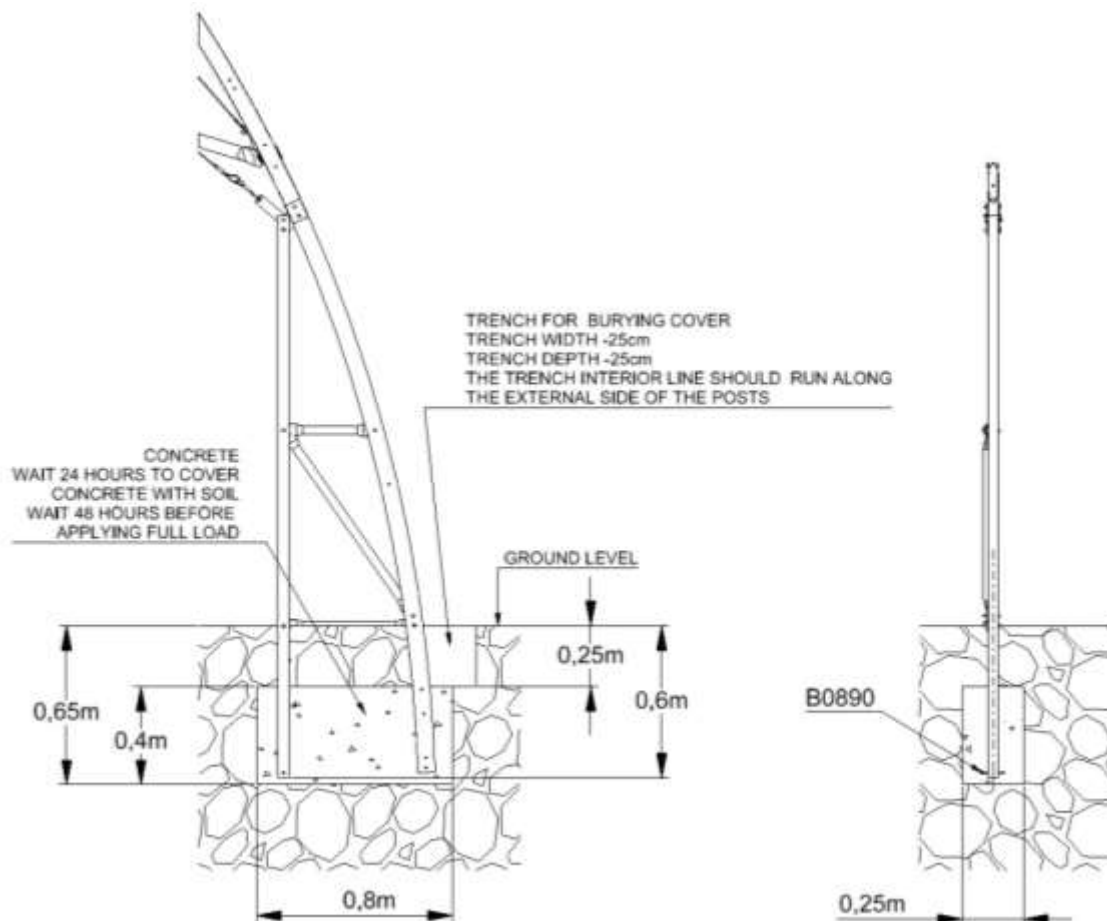

Figure 11: Placement of the arc in the hole
- See the depth of the arcs in the holes (Figure 11).
This section discusses concrete for the 10 holes you dug earlier (Figure 11).